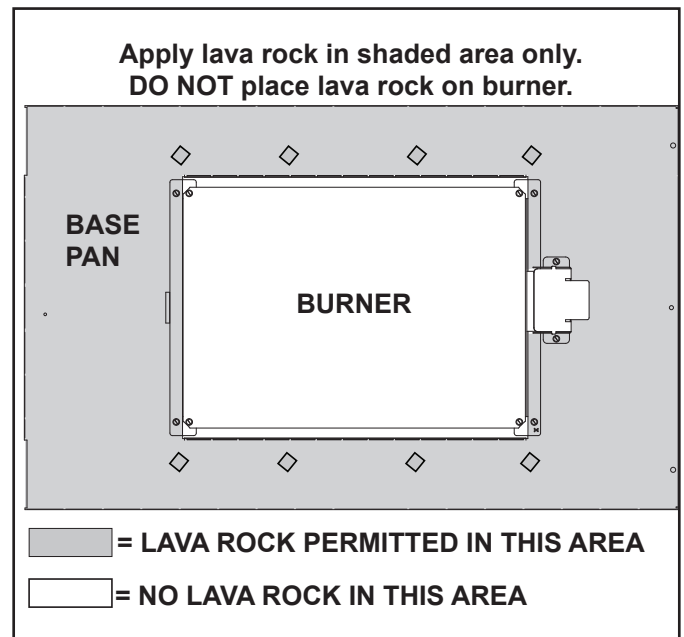

Figure 11.2 Placement of Lava Rock
- Place Lava Rock on areas of base pan away from the burner as shown in Figure 11.2. Do not place lava rock on burner. Use this material to give the appliance a realistic ash bed.